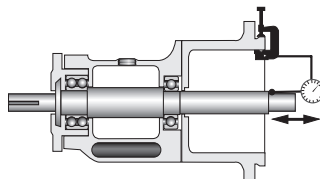

Figure 2
**Shaft endplay** should not exceed 0.25 mm (0.010 in) TIR, regardless of thrust bearing type. See Figure 2.